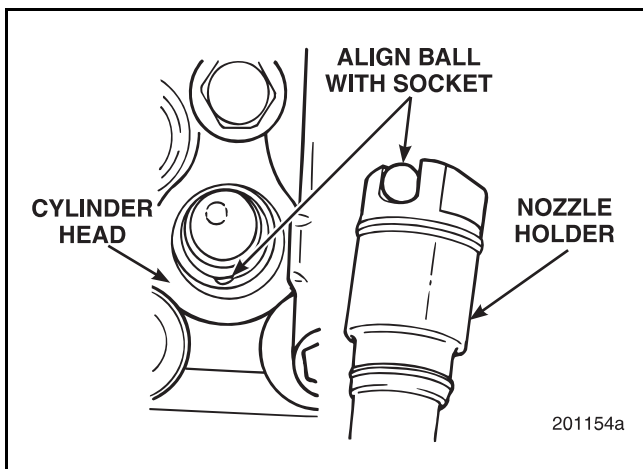

Figure 6-63 — Nozzle Holder Alignment
4. Insert nozzle holder in the nozzle holder hole. Be sure to align the locator ball in the nozzle holder with the socket in the cylinder head to ensure inlet tube alignment. Refer to Figure 6-63.